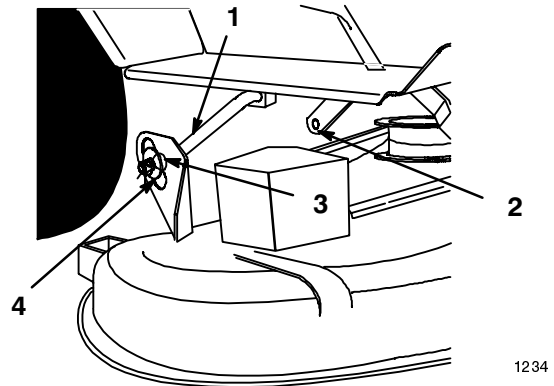

Figure 15
5. Remove 2-9/16" hairpin cotter and 3/8" washer from rear lift link and remove from attachment lift (Fig. 15).
6. Remove (2) 3-3/8" hairpin cotters and (2) 3/4" washers from rear lift arms (Fig. 15).
7. Slide deck right, off rear lift arms (Fig. 15).